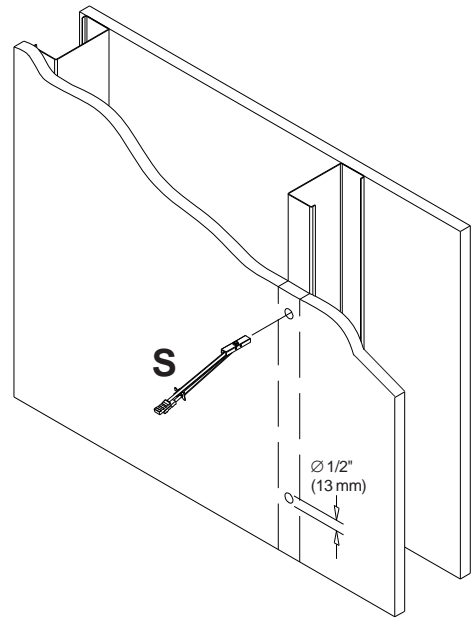

**fig 2.4**
**2** Position access plate (B) at desired position on wall. Use access plate (B), making sure that it is level, as a template to mark holes. Drill six 1/4" (6 mm) dia. holes to a minimum depth of 2-1/2" (64 mm). Concrete must be 2000 psi density minimum. Insert anchors (G) in holes flush with wall as shown in figure 2.3. Place access plate (B) over anchors and secure with six #14 x 2-1/2" (6 mm x 65 mm) wood screws (H) as shown in figure 2.4. Make sure wall plate is level and tighten all fasteners.